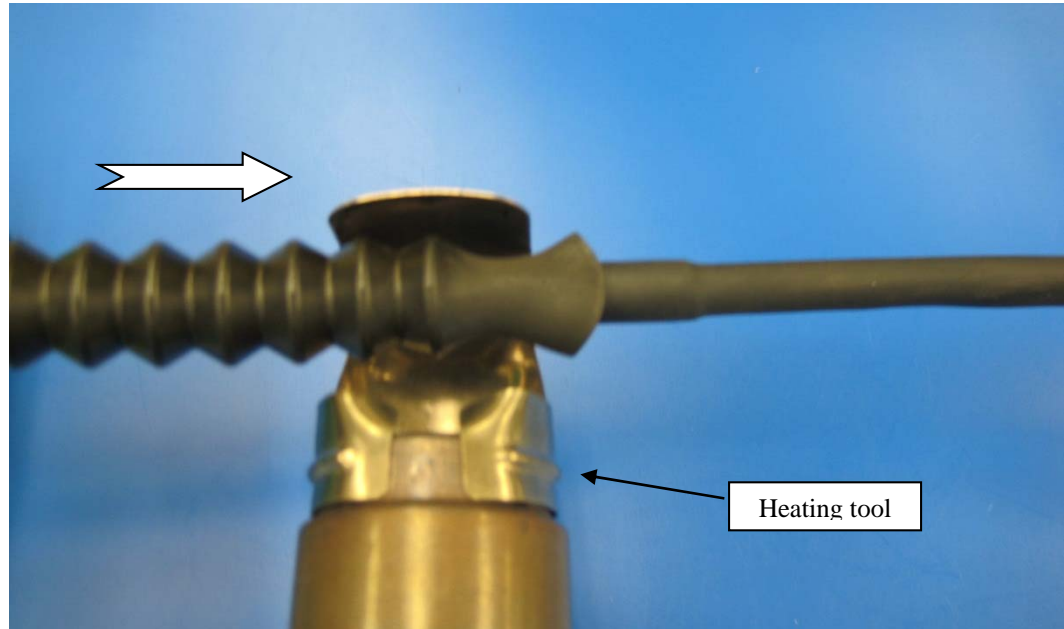

Figure 3-7
- Work toward the J end as the boot shrinks (Figure 3-7).